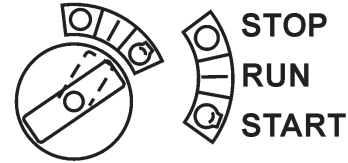

Figure 14. Starter Key (Start Position)
4. Turn the starter key further to the right to the **START** position (Figure 14) to start the engine. Buzzer stops sounding when the engine speed increases. With safety switch equipped, motor runs only when the travel lever is in the neutral position.